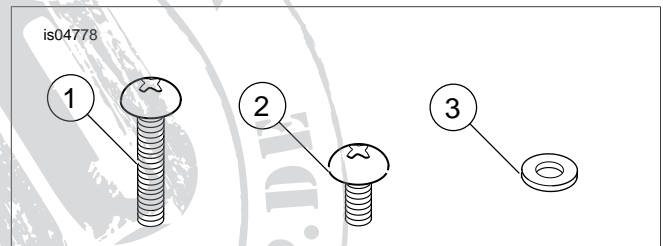

Figure 1. Service Parts: Switch Housing Hardware Kit
See Figure 1 and Table 1.
3. See Figure 1. For the upper and lower clutch lever and front brake lever housing clamps, use screws (1) with washers (3). Tighten per the appropriate Service Manual.
4. For the switch cover housings, use screws (2). Tighten per the appropriate Service Manual.